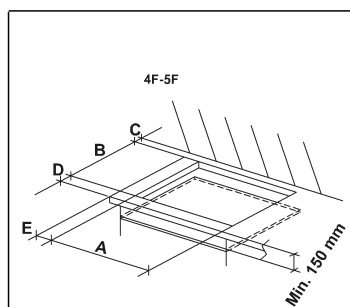

FIG. 4
The measurements of the opening made in the top of the modular cabinet and into which the hot plate will be installed are indicated in either fig. 4. Always comply with the measurements given for the hole into which the appliance will be recessed (see fig. 4 and 5).
- In order to avoid accidental touch with the overheating bottom of the hob, during the working, is necessary to put a wooden insert, fixed by screws, at a minimum distance of 150 mm from the lower surface of the top (see fig. 4).
- In order to avoid accidental touch with the overheating bottom of the hob, during the working, is necessary to put a wooden insert, fixed by screws, at a minimum distance of 60 mm from the lower surface of the top (see fig. 4).